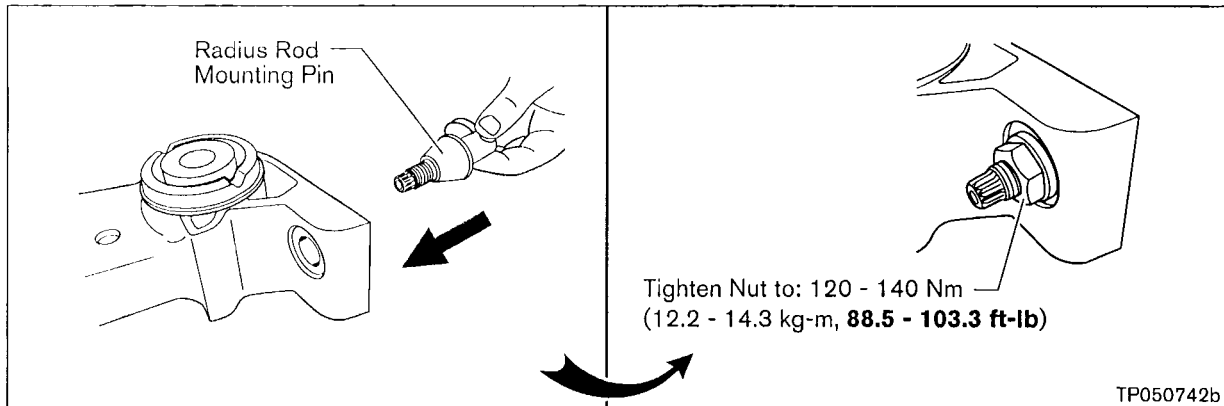

Figure B6
- b. Install the original radius rod mounting pins to the new suspension member and tighten the nuts to: 120 - 140 Nm (12.2 – 14.3 kg-m, **88.5 – 103.3 ft-lb**). See Figure B6.